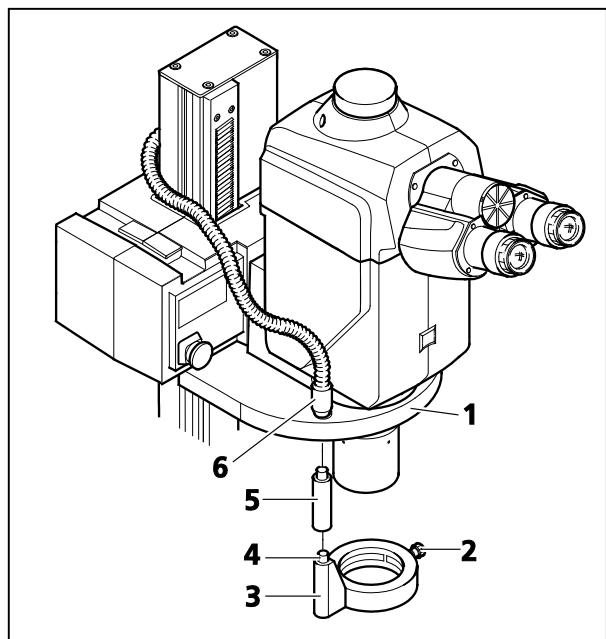

Fig. 17 Slit-ring illuminator with light-conducting rod
- Insert the end sleeve of the light guide (Fig. 17/6) into the light guide receptor on the upper side of the nosepiece (Fig. 17/1).
- Insert the required light-conducting rod (Fig. 17/5) onto the fiber input (Fig. 17/4) of the slit-ring illuminator (Fig. 17/3) as required.
- Fit the slit-ring illuminator onto the objective from below, push it upwards until the fiber input or light guide is fully inside the hole in the nosepiece and secure with the knurled screw (Fig. 17/2).